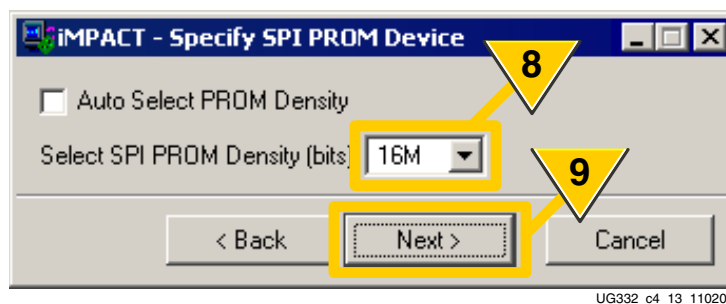

Figure 4-12: Select SPI PROM Density
8. As shown in Figure 4-12, select the **SPI PROM Density** of the targeted device, measured in bits.